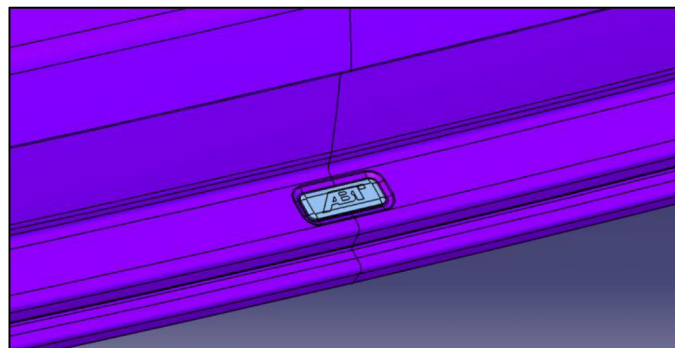

Fig 15: Recess for ABT emblem (arrow)
37. Attach the supplied ABT emblem in the previously cleaned, intended recess in the ABT rear skirt (Fig. 15).